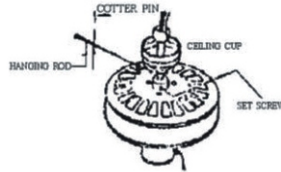

FIGURE 2
3. Insert the rod into the fan and align the holes for the bar. Insert the cap into the hole and bend the ends to secure them. To avoid noise, make sure that the pin does not rest on the motor housing, as shown in Figure 2.